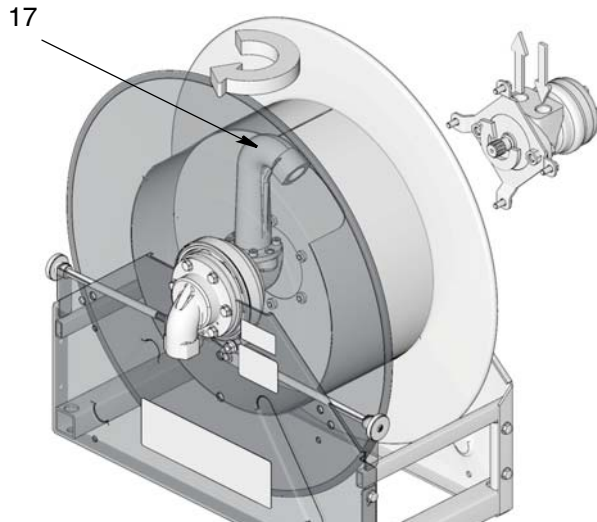

FIG. 10
- b. Turn outlet (17) 180° as shown in FIG. 10.